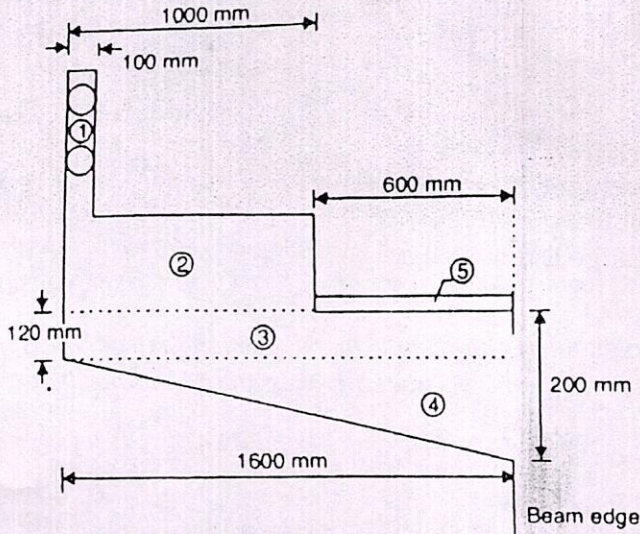

Figure-2
- (a) Design the linear waterway, and (b) For the cantilever slab portion (Figure-2), of the bridge given in Ques. II above, calculate the design moment and design shear only.